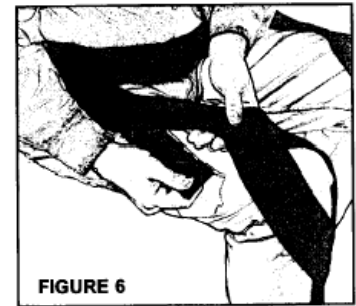

FIGURE 6
6. Because of the elasticity of the leg straps, it is easiest to adjust the waist belt buckles one at a time using one hand to feed the strap and the other to pull it through. See Figure 6. To loosen, simply lift up on the front edge of the buckles.